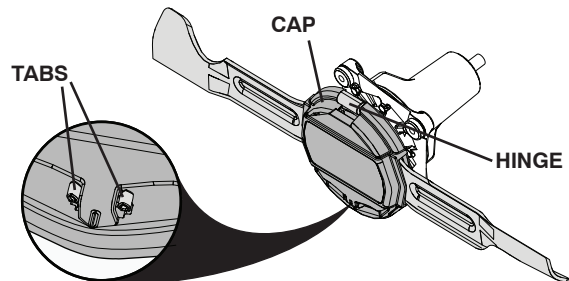

Fig. 35
BLADE REPLACEMENT (See Figs. 35 - 40)
- Squeeze tabs inward to release cap. Remove by lifting cap from hinge and set aside. (See Fig. 35)